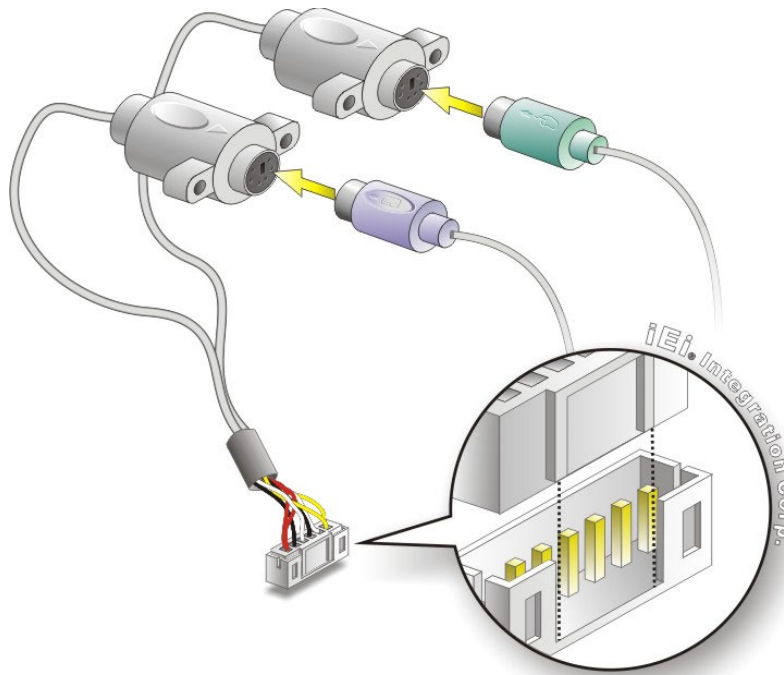

Figure 4-12: Keyboard/mouse Y-cable Connection
Step 2: **Align the connectors.** Correctly align pin 1 on the cable connector with pin 1 on the NANO-CV-D25501/N26001 keyboard/mouse connector. See **Figure 4-12**.
Step 3: **Insert the cable connectors.** Once the cable connector is properly aligned with the keyboard/mouse connector on the NANO-CV-D25501/N26001, connect the cable connector to the on-board connectors. See **Figure 4-12**.